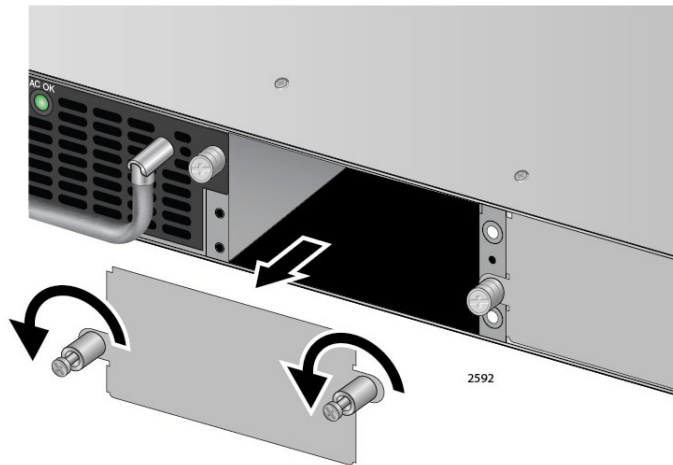

Figure 27. Loosen Screws on Fan Blank Cover
1. Loosen the captive screws on the fan blank cover panel on Fan 1 (left) slot. See Figure 27.